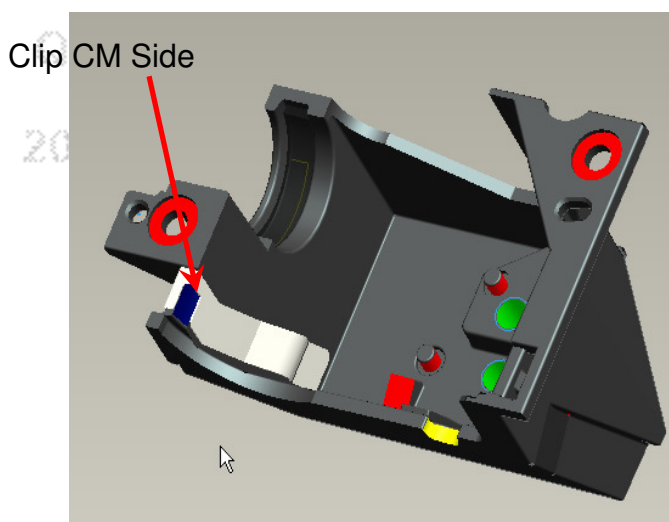
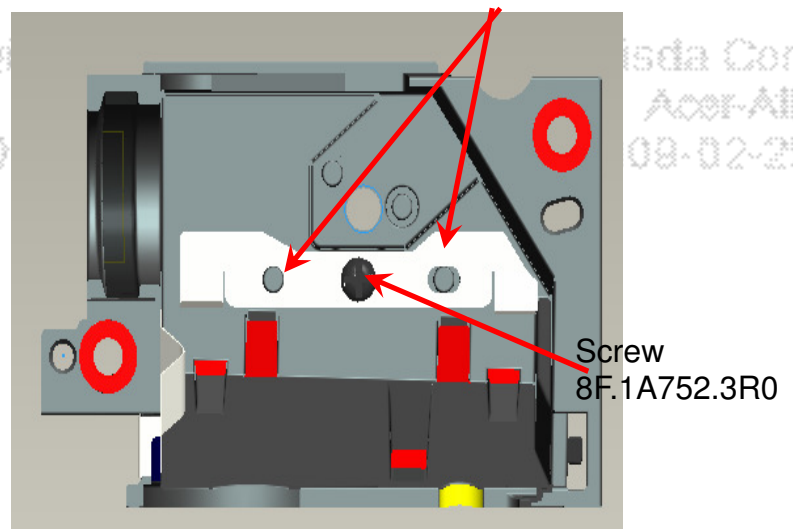

Fig. 3-1
Fig. 3-2
- I. Insert "Clip CM Side" first, and then place "Clip Front CM" to fixed-shaft of ILL SUB before locking screw (Fig. 3-1, Fig. 3-2).